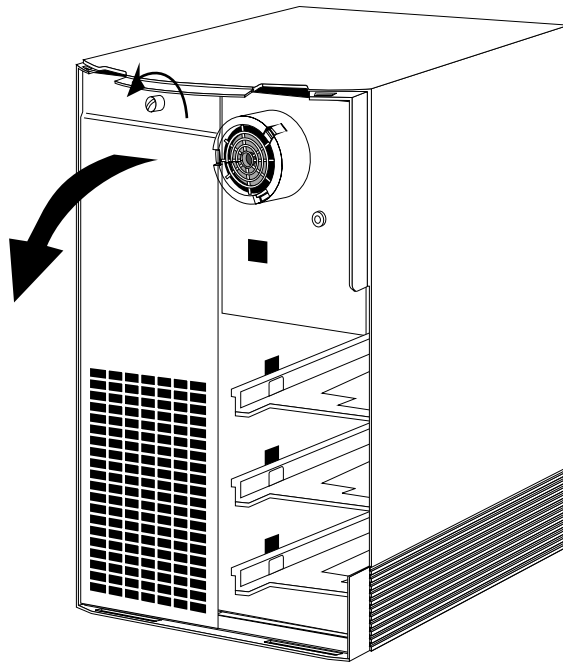

Figure 3 Opening the Front Metal Panel
3. Open the front metal panel (See Figure 3).
- Loosen the panel by unscrewing the thumbscrew, as shown in Figure 3.